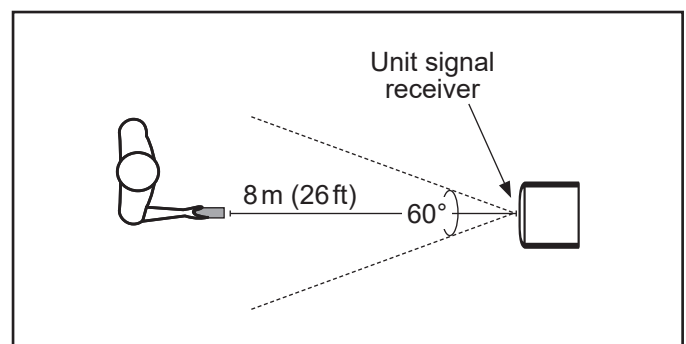

FIGURE 21
- In order for the signal to be transmitted successfully, the distance between the remote control and the unit must be less than 8 meters (26 feet) and within a 60° angle (as seen in Figure 21).